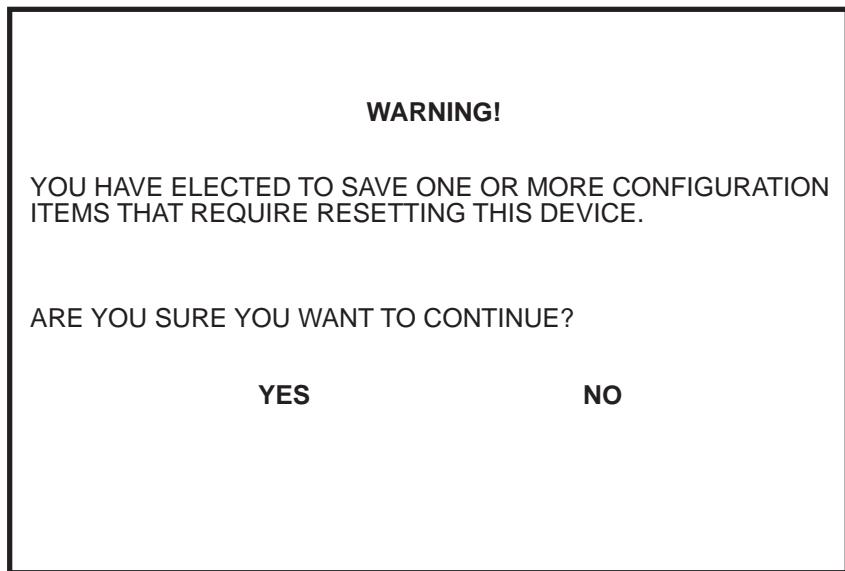

Figure 5-10 Configuration Warning Screen
4. Use the arrow keys to highlight the **SAVE** command, then press ENTER. The warning screen shown in Figure 5-10 displays.